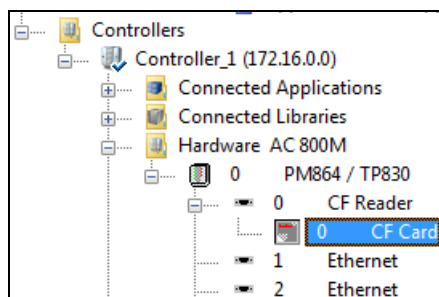

Figure 78. The Controllers item expanded and the CF Card connected to the CF Reader item.
1. Expand the **Controllers** item until you reach the **CF Reader** (or **SD Reader**) item (see Figure 78).